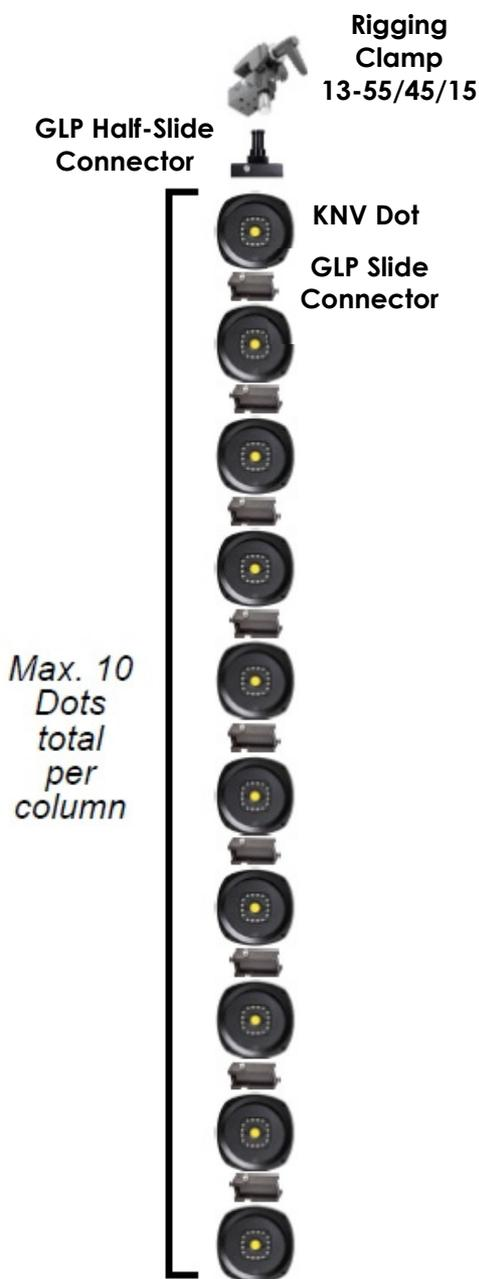

Figure 14. Single column of 10 x KNV Dots suspended using a GLP Half-Slide Connector
1. See Figure 14 on page 27. Obtain either:
7. Continue adding KNV Dots as described above. Do not exceed a maximum of ten (10) KNV Dots in total for any column that is suspended using a GLP Half-Slide Connector. If you want to install more KNV Dots vertically below this column, you must create a new column with its own suspension point.